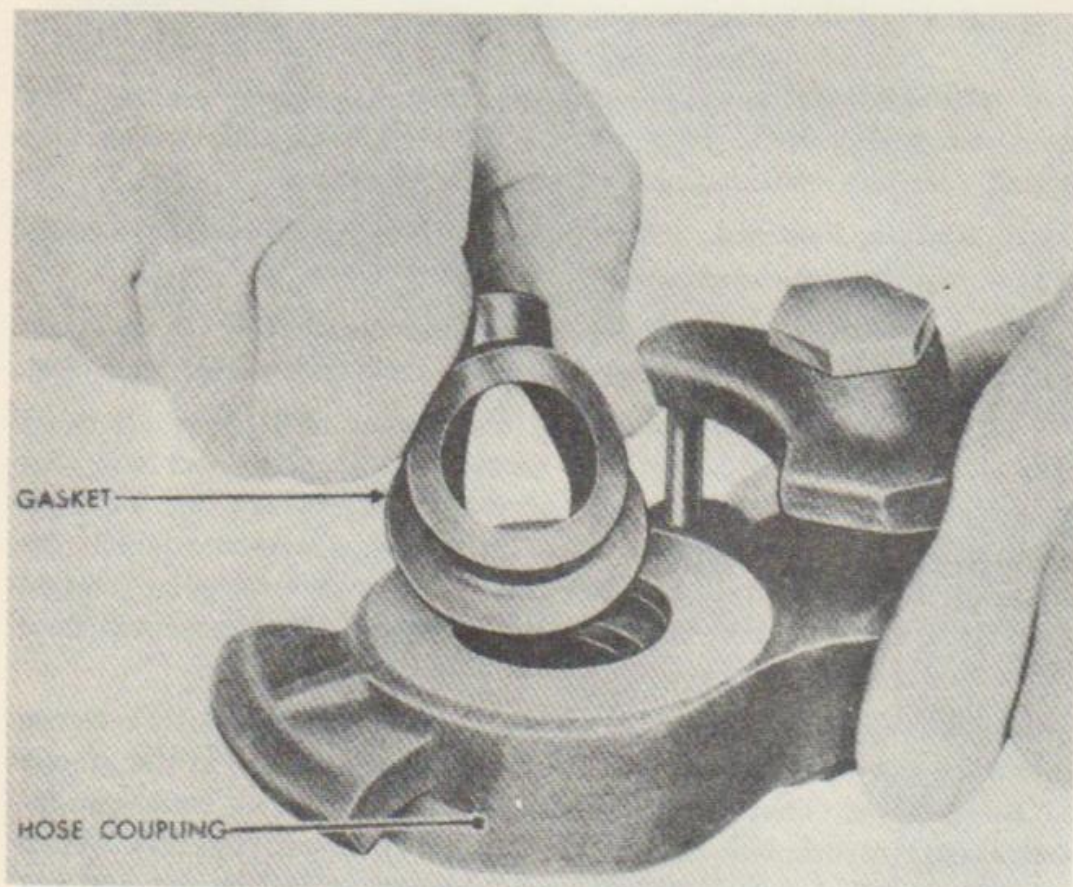

FIGURE 30. INSTALLING GASKET IN COUPLING
e. Fittings. All tubing fittings used in air brake system are the three piece compression type. Two sizes are used— $\frac{3}{8}$ inch and $\frac{1}{2}$ inch. See (fig. 30) for requisitioning part numbers of fittings.
i. Coupling Reassembly. To install a new gasket, partially collapse it with the fingers and enter one side of the gasket flange in the groove of the coupling. Then use a blunt nose screwdriver, or some similar instrument, to complete pushing the gasket in place (fig. 30). When properly installed, the exposed face of the gasket will be flat and not twisted or bulged at any point. With a new gasket installed, the assem-